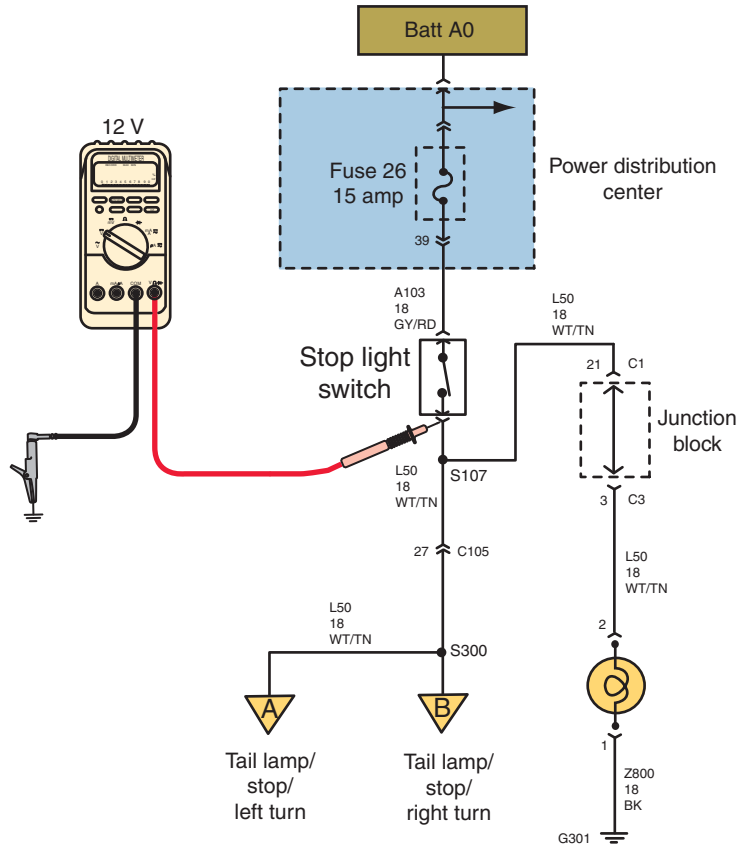

FIGURE 4-33a
7. A customer states that their tail lamps are not functioning. When testing the lamp operation, it is noted that the tail/stop lamps and the turn signals do not operate. During the diagnostic routine, the technician also notices that the back-up lamps are also not functioning. All fuses test good. Using all of the wiring diagrams with indicated test voltages in Figure 4-33a through d, what is the most likely cause of this condition?